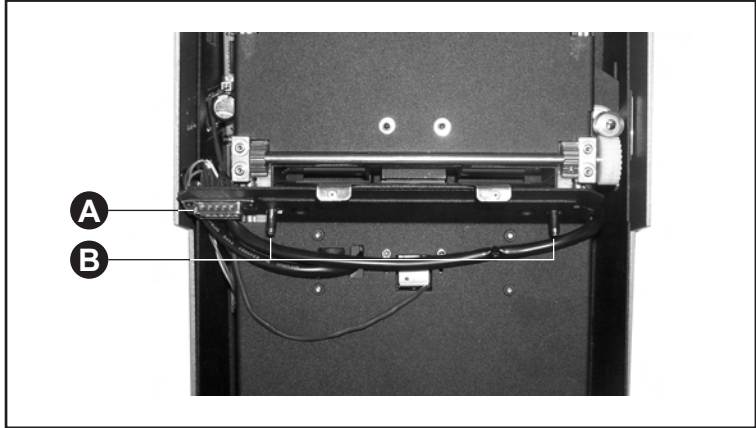

Figure 3: Back panel of the Slide Feeder, showing the electrical connector (A) and mounting pins (B).
8. Get the Slide Feeder and study its back panel. Locate the connector **(A)** and two mounting pins **(B)** as shown in Figure 3 below.